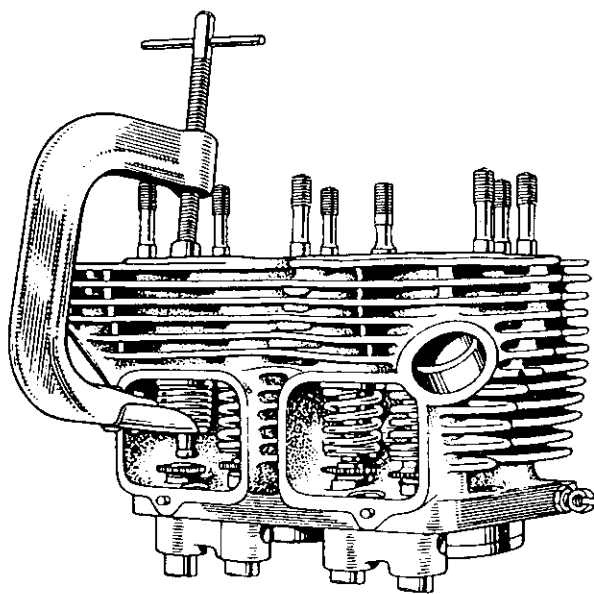

Fig. 13. Valve Spring Compressor Tool.
32. (1) Use the valve spring compressor as shown in Figure 13. When the spring has been compressed sufficiently, the split cotters can be eased away with a narrow screwdriver, and the valve spring withdrawn on release of the compressor. As each valve is removed, mark the cylinder number on it clearly to indicate correct repositioning when assembling.